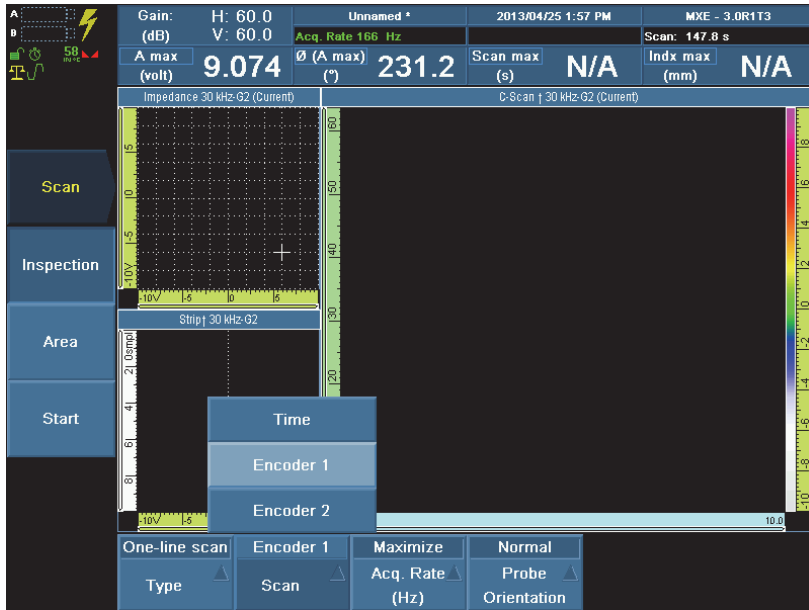

Figure 9-24 Activating the probe's encoder
1. Select **Scan > Inspection > Time = Encoder 1**, and then press the Accept key to confirm (see Figure 9-24 on page 157).